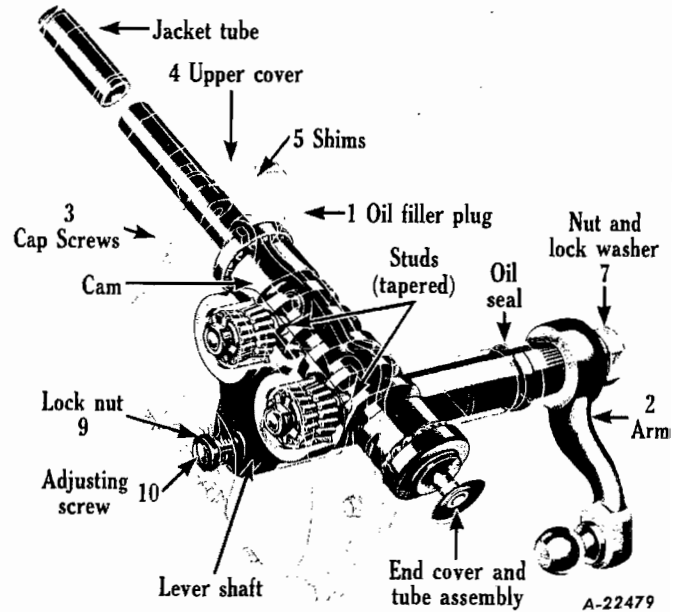

Fig. 2 - Models TA-54, TA-61, T-66, TA-66, TA-70.
2. Twin-lever with rolling studs -- the studs are mounted in the lever with tapered roller bearings so that the studs have a rolling contact on the cam (Fig. 2).